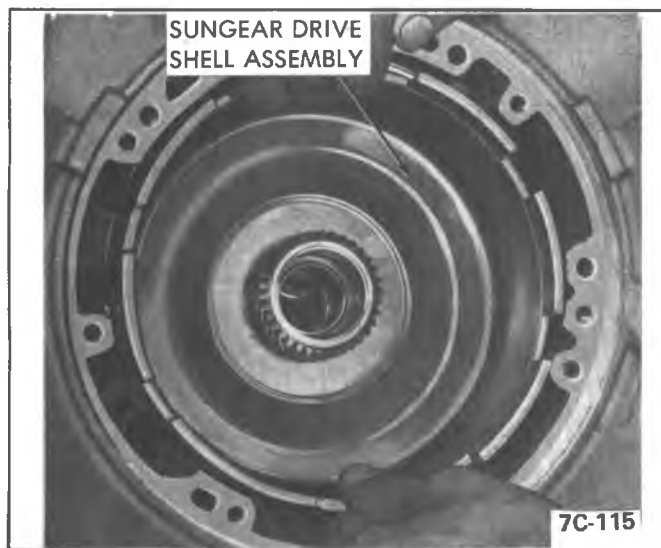

Figure 7A3-123 Sun Gear Drive Shell Assembly
1. Install output carrier assembly. See Figure 7A3-124.